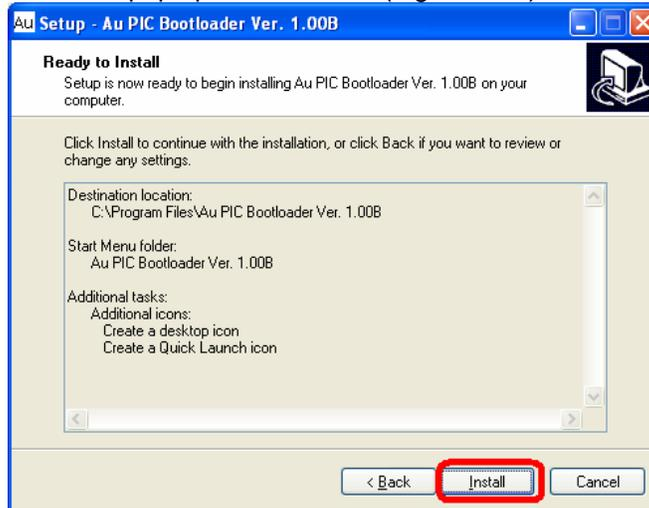

Figure 6-20
- 7. A “Ready to Install” window will pop up. Click “Install” (Figure 6-20).